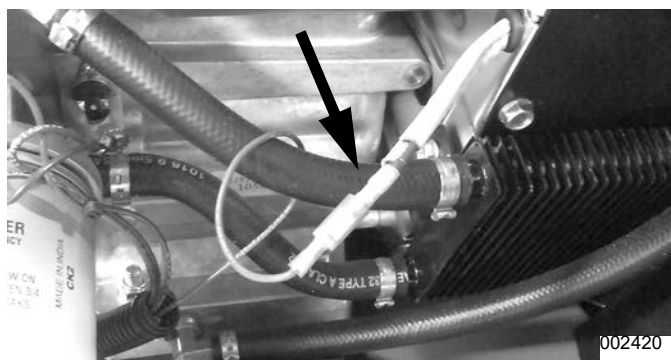

Figure 3-81. Wire 18 Connection
3. See Figure 3-81. Back probe Wire 18 harness connector. Do not disconnect this wire.